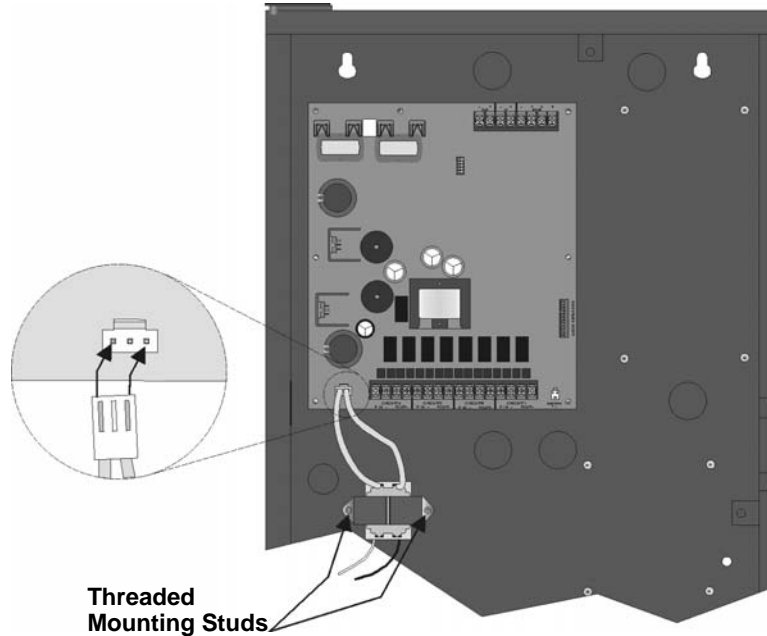

Figure 4-18 Transformer Mounting
3. Mount the transformer onto the threaded cabinet transformer mounting studs using the supplied locking hex nuts as shown in Figure 4-18.